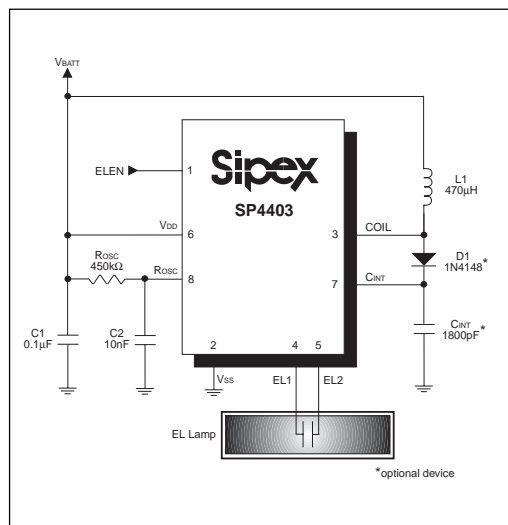

Figure 2. Typical Application Circuit for the SP4403, Set for a Square Wave Output with  $C_{\text{INT}} = 0.1\mu\text{F}$
A total of only six external components are required for the standard operation of the **SP4403**: an inductor, a fast recovery diode, three capacitors and a resistor. A diagram of the **SP4403** in a typical application can be found in *Figure 2*.
**Increase EL Lamp Light Output:** By connecting a fast recovery diode from COIL (pin 3) to  $C_{INT}$  (pin 7), the internal diode of the switched H-bridge network is bypassed resulting in an increase in light output at the EL lamp. We suggest a fast recovery diode, such as the industry standard 1N4148, be used for D1. This circuit connection can be found in *Figure 2*.
A designer may change the output waveform to a square wave by using a 0.1 $\mu$ F capacitor (shown in *Figure 2*) at  $C_{INT}$  (pin 13).
The **SP4403**'s high-frequency operation makes PC layout important for minimizing ground bounce and noise. Keep the IC's GND pin and the ground leads of C1 and  $C_{INT}$  in *Figure 2* less than 0.2in (5mm) apart. Also keep the connections to L1 (pin 3) as short as possible. To maximize output power and efficiency and minimize output ripple voltage, use a ground plane and solder the IC's  $V_{SS}$  (pin 2) directly to the ground plane.